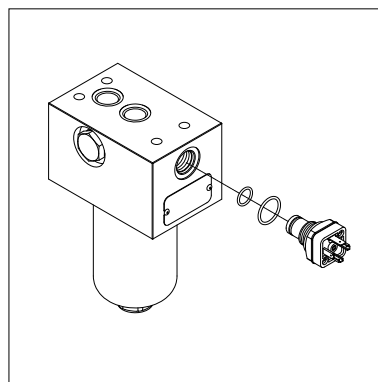

fig. 23
- (Fig. 23) Replace the O-rings of the indicator body